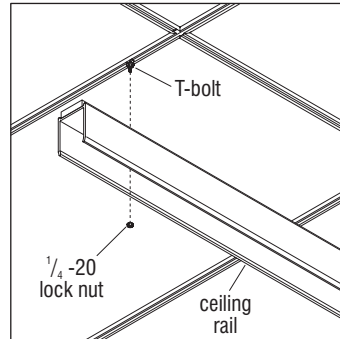

Figure 2
2. Ceiling rail installation (Figure 2). For seismic conditions, or where extra bracing is required, see pages 12 & 13 for installing steel studs.